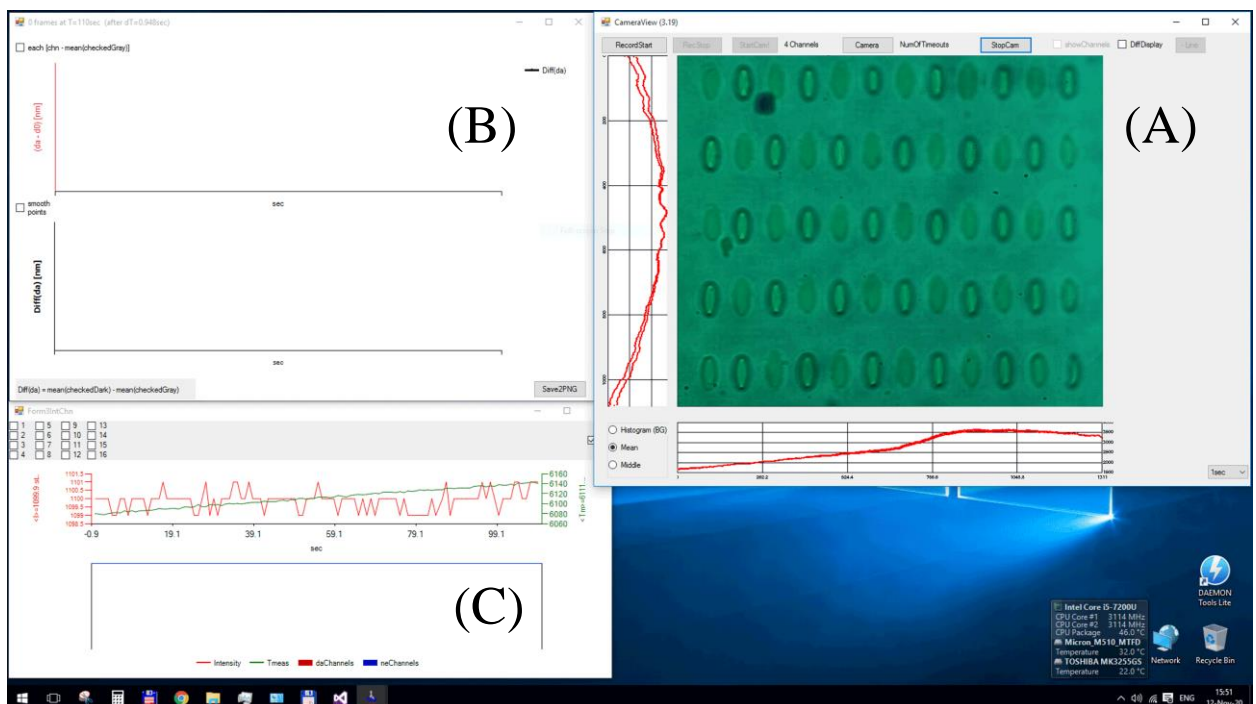
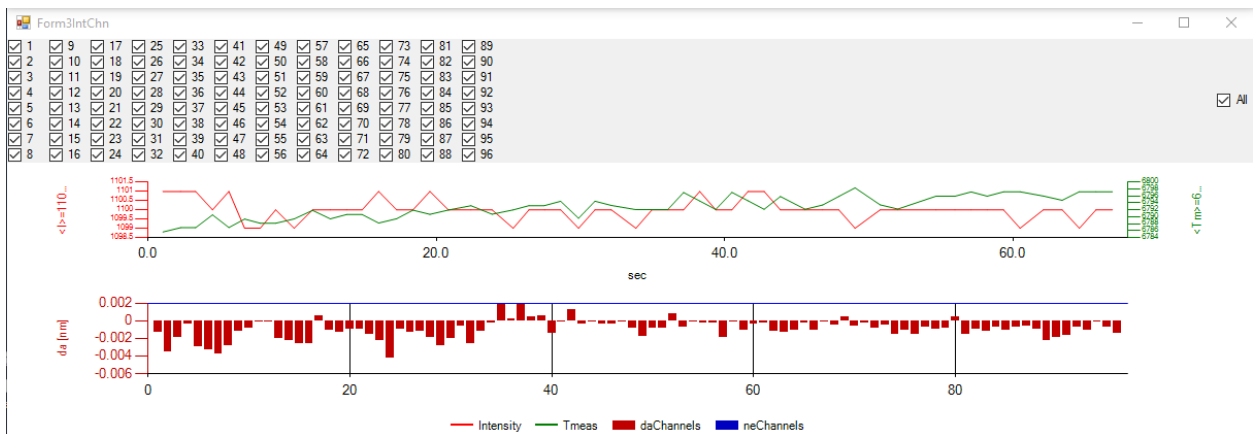

Figure 7. Three windows will appear on the screen after the *PCbiosensors3* program launch.
Figure 12. Form3IntChn auxiliary window.
After turning on the LED and the camera of the EVA 3.0 device (by two corresponding tumblers), you can launch the *PCbiosensors3.exe* program. Three windows (A, B, C), as displayed in **Figure 7**, will appear.
Images from the camera in **Figure 7 (A)** are shown in their natural color. The biosensor detects a slight color change at each point of the camera using normalized difference (1) and recalculates it as a $\Delta\lambda$ shift. Thus, the device determines λ for each camera pixel to obtain the spatial distribution $\lambda(x,y)$ across the camera that reflects the spatial distribution of the waveguide resonance shifts across the sample.
When the positioning of the registration spots is complete, you can start recording by pressing the ‘Start New Record’ button. After pressing the ‘Start New Record’ button, a new measurement begins, and its results are displayed in the data window (see **Figure 7**, item B).
(if the box ‘self-reference in each channel’ was checked in ‘RecordStart’ subwindow). By default, all channels marked as ‘Plus channels’ and, therefore, an initial black graph display a mean value of all da[nm]. Checked or unchecked channels for visualization is possible in window ‘Form3IntChn’ (see **Figure 7**, item C or **Figure 12**).
The graphs in Form3IntChn window (see **Figure 12**) are auxiliary graphs, and it is rarely used in routing measurements. An upper graph displays mean intensity on the CMOS camera and a measurement time, which is required to retain this mean intensity. The mean intensity value (in this case $\langle I \rangle = 1100$) is assigned at the beginning of the program with the first number following the name of the exe file (for example, *PCbiosensors3.exe 1100 32 0.5* – where the second number is a number of integration in one second, and the third number is a scale factor of the matrix in CameraWindow).